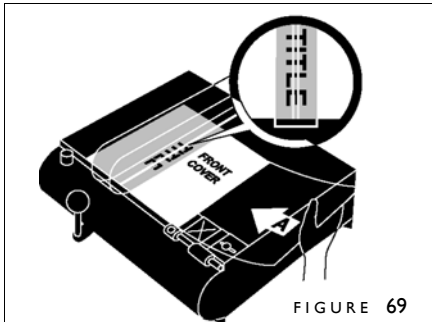

FIGURE 69
3. Slide your cover under the transparent bar until your title is centered between the two silver lines (figure 69). The bottom of your cover must rest against the Left Stop and the Guide Rail. Push the Lever to the right to clamp your cover in place.